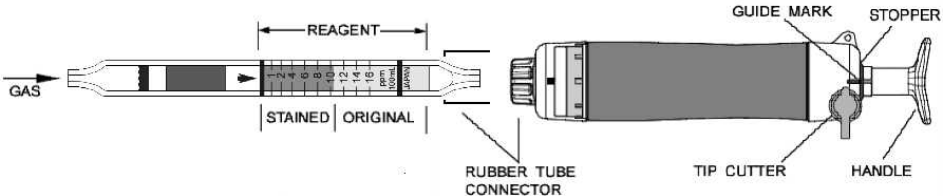

Fig.1
- ② Insert the detector tube into the aspirating pump securely as shown in Fig.1. (Arrow mark shall point to the pump.)
- ③ Align the guide marks on the shaft and stopper of the aspirating pump.
- ④ Pull the pump handle at a full stroke until it locks and wait for 1.5 minutes or until the completion of sampling is confirmed with the flow indicator of the pump. (See descriptions about the flow indicator in the instructions manual of the pump.)
- ⑤ On completion of sampling, read the scale at the maximum point of the stained layer.
- ⑥ When the concentrations are below the scale range, 4 pump strokes can be used to determine these lower concentrations. Then correct the tube reading by correction table.
- ⑦ When the concentrations are over the scale range, a 1/2 pump stroke can be used to determine these higher concentrations. Then correct the tube reading by correction table.
- ① Temperature; Correct the tube reading by following temperature correction table .